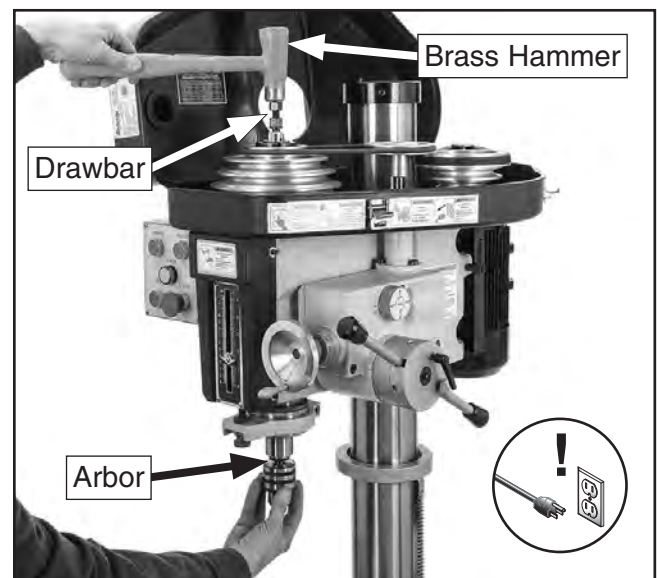

Figure 22. Tapping top of drawbar with drawbar nut already loosened to remove tooling.
3. Hold tooling to prevent it from dropping completely out of machine. Tap on top of drawbar with a brass hammer to loosen collet/arbor from spindle, as shown in **Figure 22**.